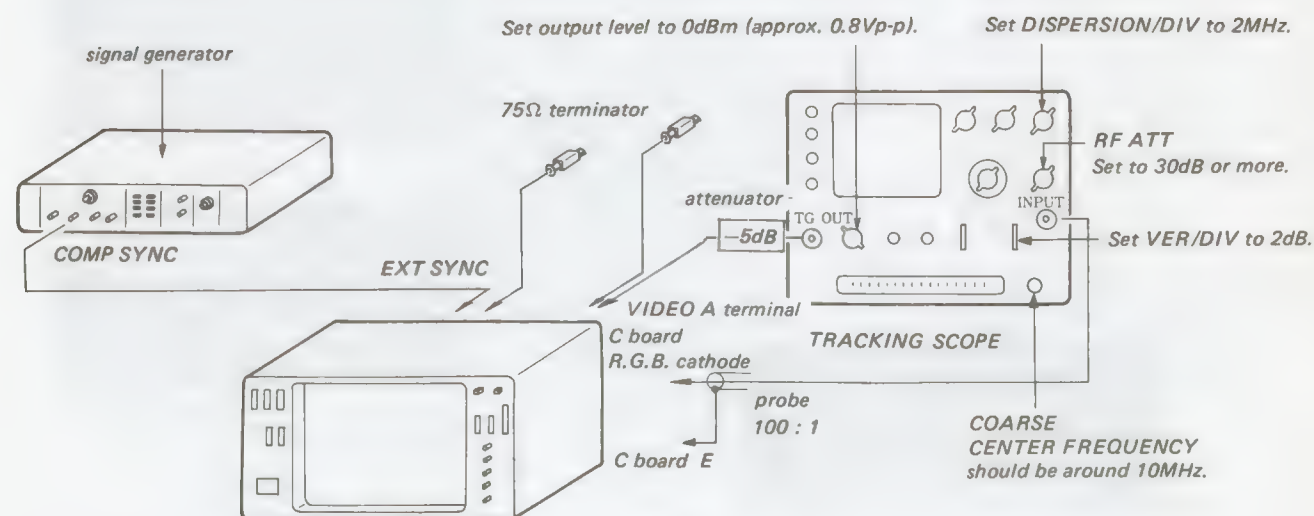

Fig. 5-96.
1. Complete the connections as shown in Fig. 5-96.